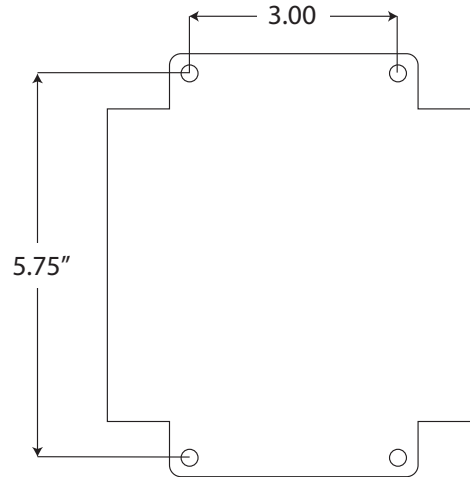

Figure 2: Sentinel mounting dimensions
- 1) Install four drywall anchors (if necessary). Attach the Sentinel using four #6 tapping screws. See Figure 2 for dimensions.